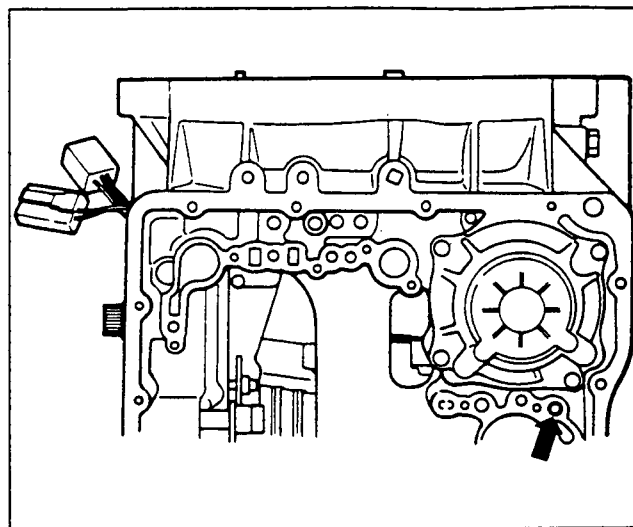

Figure 294. Brake Band Adjustment (3)
5. Blow air into the oil holes shown at below and check operation (figure 294).